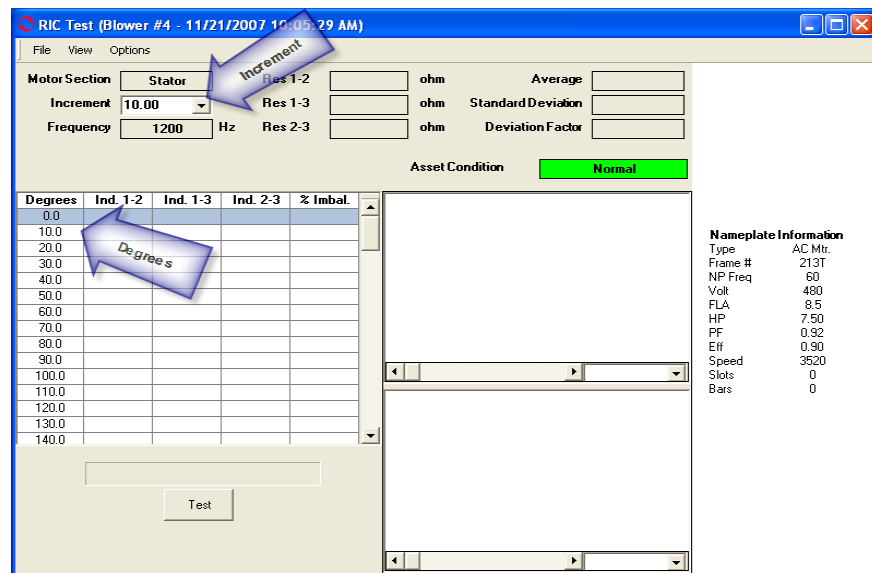

Figure 5-24: RIC Test Window
12. Click **Test** to go to the test. The RIC test window, Figure 5-24, opens.